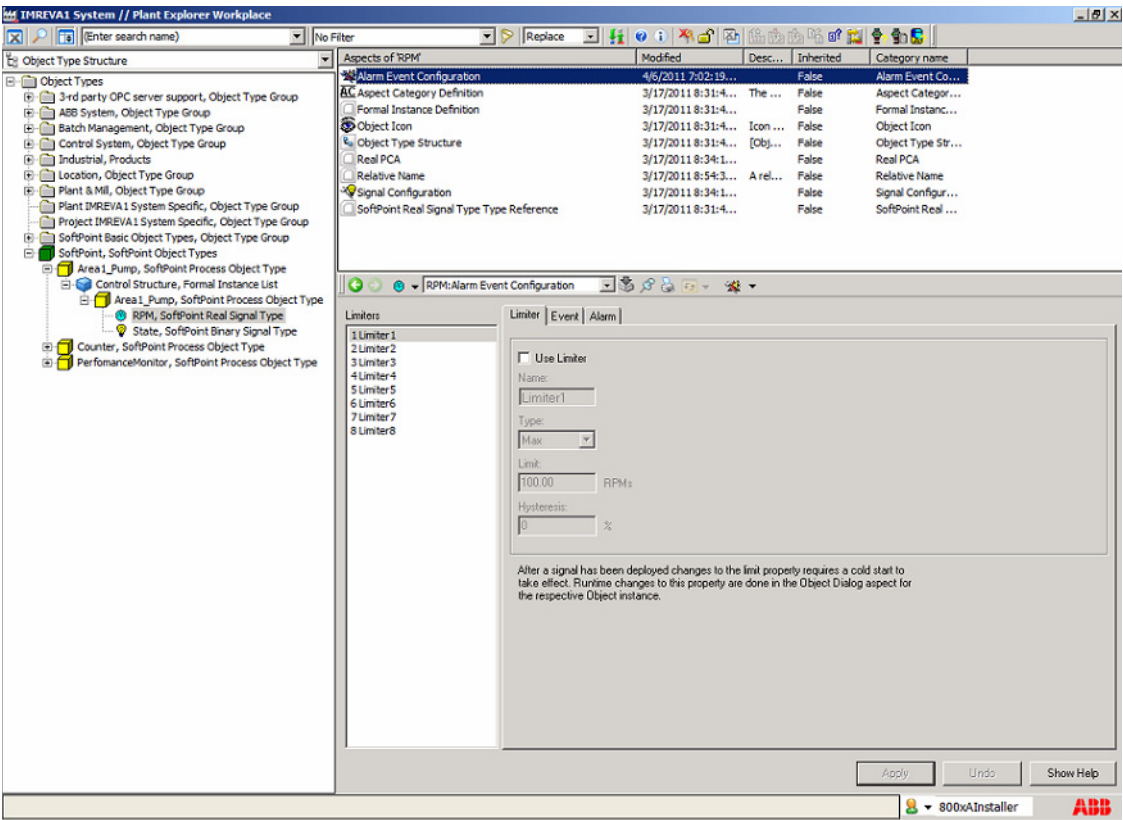
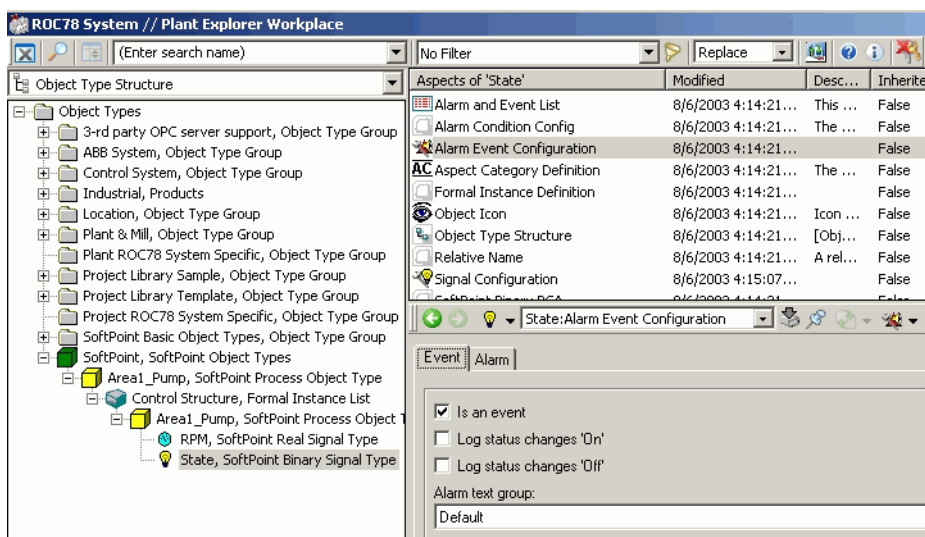

Figure 15. Alarm Event Configuration Aspect for Real and Integer Signal Types
Figure 18. Alarm Event Configuration Aspect Selected
1. With the signal type selected in the object browser, select the **Alarm Event Configuration** aspect from the object's aspect list, Figure 15.
To specify that an event be generated when a signal state changes (reference Figure 18):
Figure 18 demonstrates how to enable and configure events for a binary signal type. When configuring events for a real or integer signal limiter, the Alarm Event Configuration aspect will have a third tab for selecting the limiter whose event is being configured (Figure 15).